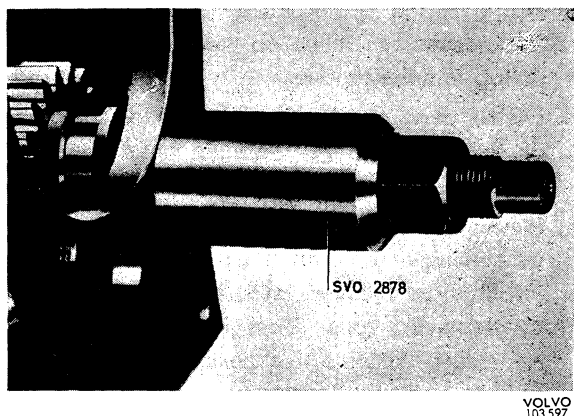

Fig. 4-14. Removing reverse gear
11. Take out the idler gear. Pull out the shaft for the reverse gear with puller SVO 2878, see Fig. 4-14. Take out the reverse gear and other parts.